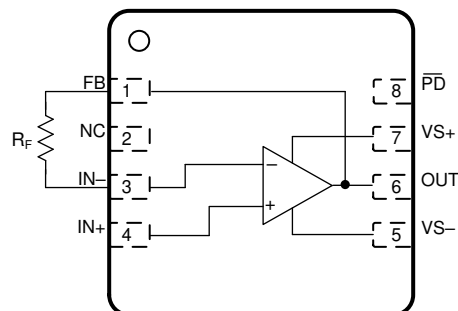

Figure 8-4. R_F Connection Between FB and IN– Pins
1. A feedback resistor (R_F) can connect between the FB and IN– pin on the same side of the package (see Figure 8-4) rather than going around the package.